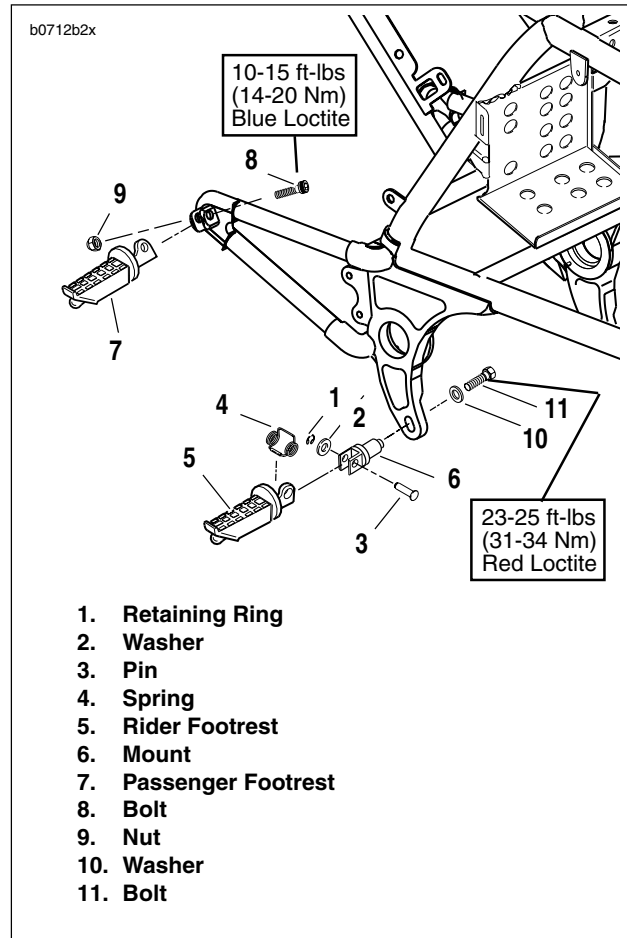

Figure 2-100. Footrests
1. See Figure 2-100. To remove rider footrest.
- a. Remove retaining ring (1) and washer (2) from pin (3).
- b. Hold hand over spring (4) and remove pin, spring and footpeg (5) from mount (6).
2. If necessary, detach passenger footrest (7) by removing bolt (8) and nut (9) from frame mount.
- a. See Figure 2-100. Apply **LOCTITE THREAD-LOCKER 243 (blue)** to footrest bolts (8).
- b. Secure footrest to frame mount with bolt (8) and nut (9). Tighten to 10-15 ft-lbs (14-20 Nm).